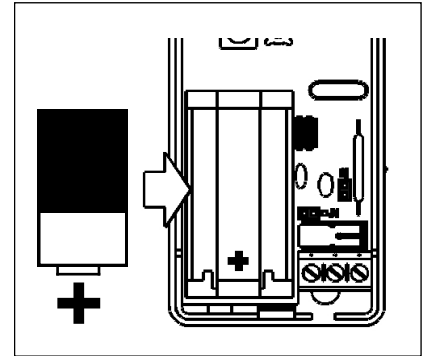

Fig. 3. Installing the battery
- 2. Insert the battery.** Observe battery polarity. Insert battery with positive (+) terminal toward terminal block. See Fig. 3 on page 2. The battery will not make contact if inserted backwards.